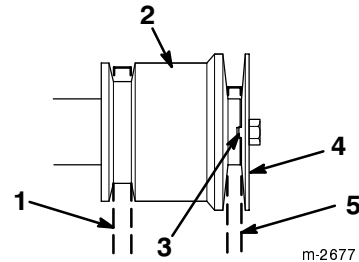

Figure 32
Note: Make sure not to pinch the traction drive belt (Fig. 32).
14. Install the engine pulley sheave, washer, lock washer, and crankshaft screw. Make sure that the indexing rib in the engine pulley sheave aligns with the indexing notch in the engine pulley (Fig. 32).
Note: Make sure not to pinch the auger/impeller drive belt (Fig. 32).
Note: Make sure that the indexing rib in the engine pulley sheave aligns with the indexing notch in the engine pulley. Also, make sure not to pinch the drive belt (Fig. 32).